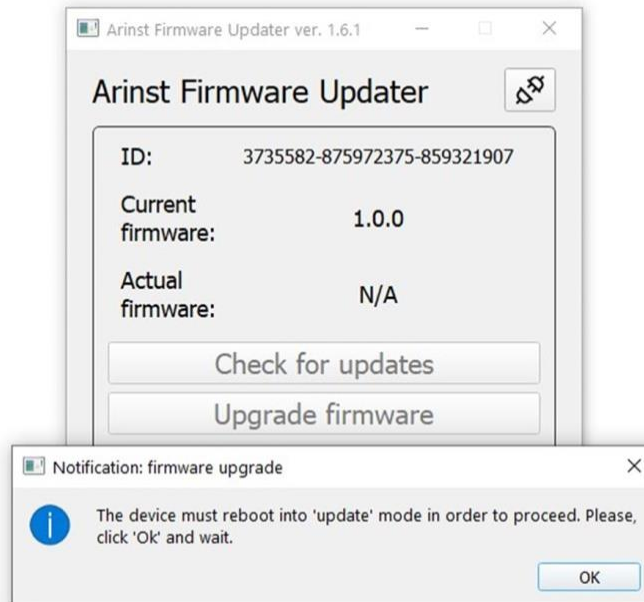

Figure A2. 5 - Application message about the device switching to update mode
Click the **Check for updates** button. If the current firmware version is lower than the actual one, the application will offer to update the device's firmware (figure A2. 4).
If the device was in application mode, it will automatically restart during the firmware update. The application message will be displayed on the PC screen (figure A2. 5).
2.9. During the device firmware update, a window will appear with the download progress (Figure A2. 6).